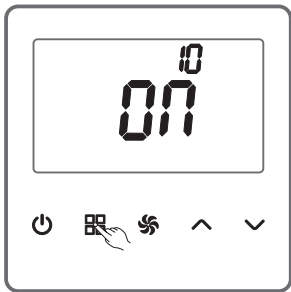

Figure 16
As shown in the Figure 16, on the parameter setting page, press  (MODE) to switch the option number to 10.  (UP) or  (DOWN) is provided to allow a switch of ON and OFF.